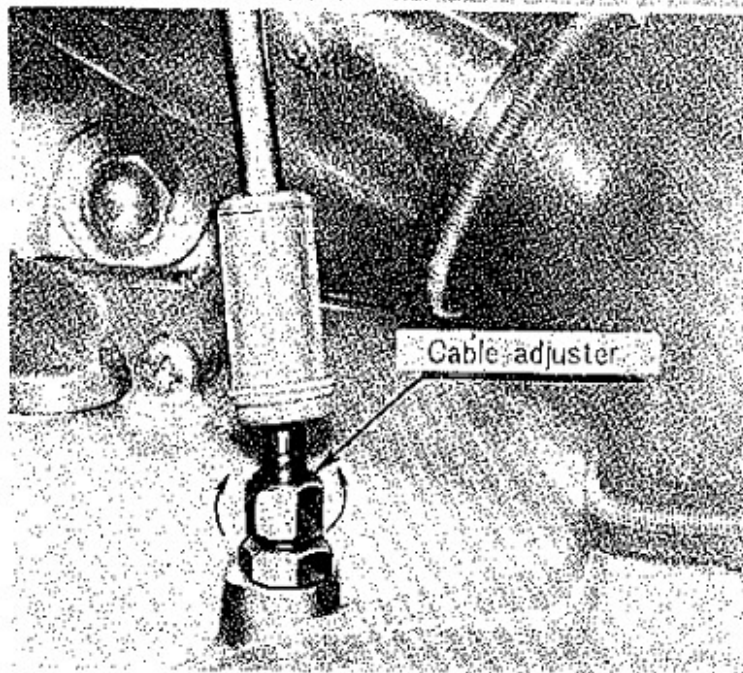

Fig. 12
- b) Adjustment of the clutch free play is obtained by turning cable adjuster. Screw in for more free play, out for less. (Fig. 12).